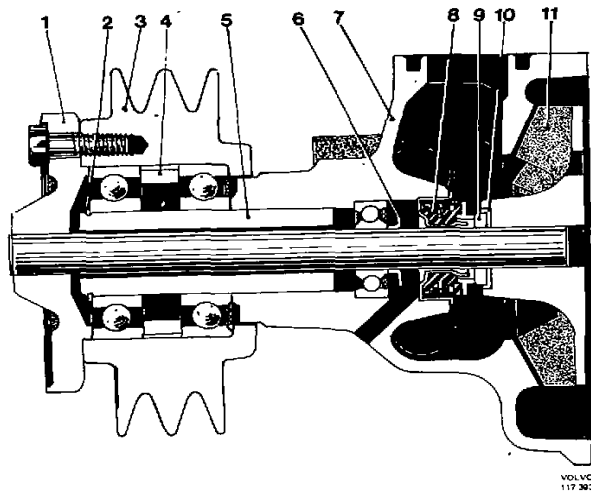
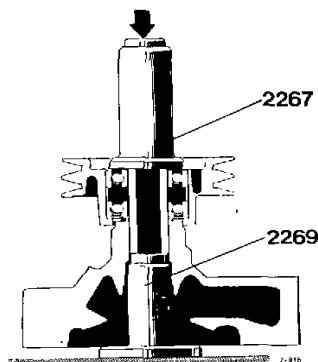

Fig. 198. Coolant pump, other engines
Fig. 200. Fitting the pulley and bearings
5. Place the fixture 2269 in place of the impeller (fig. 200). Press on the pulley with bearings until the circlip (2, fig. 198) can be fitted accurately. Fit the circlip.
8. Place fixture 2269 in the place of the impeller (fig. 200). Use drift 2267 and press on the pulley together with the rear bearing, but stop when the bearing inner is approx. 0.5 mm (0.020") from the bottom seat against the pump housing (fig. 200).